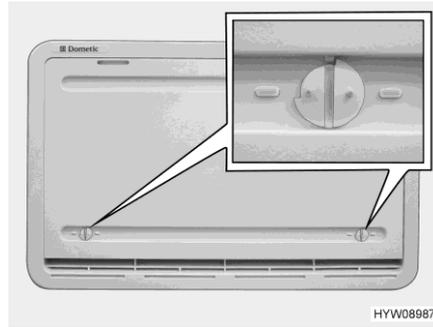

Fig. 159 Winter cover
If the refrigerator is to be operated at low external temperatures, the manufacturer recommends the use of a winter cover (Fig. 159) for the refrigerator ventilation grills.
- Open both locks (Fig. 159) (groove in horizontal position).